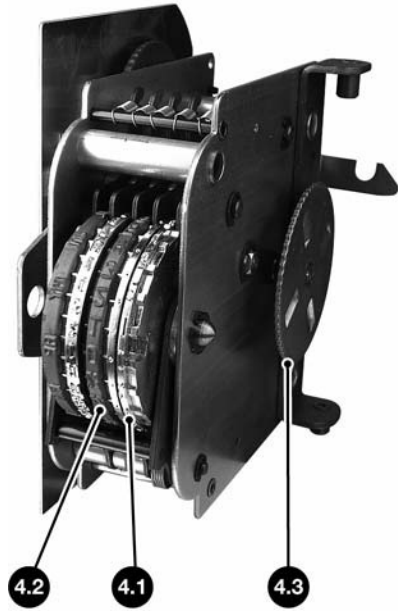

Figure 4
1. Rotate Tenth Wheel (0.9)- **Figure 4, 4.1** until it is set at "9" Rotate the Main Setting - **Figure 4, 4.3** until the Tenth Wheel moves to a "0". (This is the zero minute.)
2. Set the Hour Wheel - **Figure 4, 4.2** to the current Hour.
4. Rotate the Main Setting Wheel - **Figure 4, 4.3** to advance both the Clock Face and Print Wheels together. Rotate until you pass the actual time by one minute (each "click" indicates one minute.)